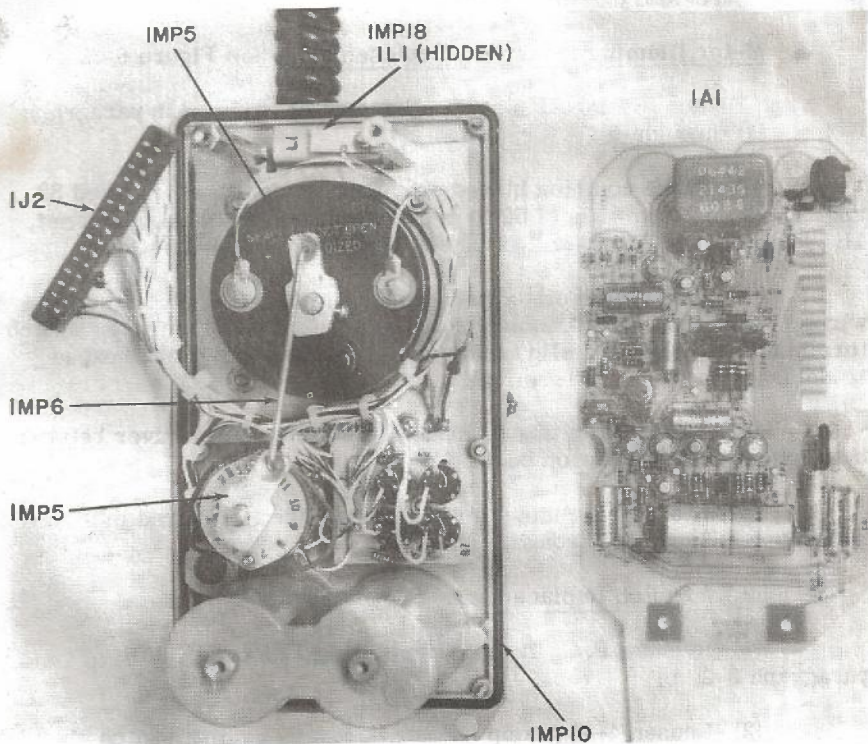

Figure 6-3. Rear View of Top Panel
(4) To replace V2, unscrew the small knurled nut 2A3MP50 and pull tube and mounting board out of probe.
(5) Replace V2 and reinsert board assembly 2A3A1 in probe making sure that board is positioned toward large probe while reassembling.
b. Printed Circuit Board Removal and Replacement. See Figure 6-3.
(1) Unscrew 6 captive screws on top panel and remove panel from housing.
(2) Remove four 6/32 screws and hardware holding P. C. board 1A1 to radiacmeter. The two screws attaching board to battery compartment are shorter than the front two and must be replaced in correct order.
(3) Remove connector, reconnect new board assembly and reassemble in reverse order.
c. Meter Replacement. See Figure 6-3.
(1) Unscrew and remove the calibration port cover from the top panel.
(2) Remove the P. C. board as outlined in paragraph 6-2, b.
(3) Loosen 4-40 screw holding clamp on meter flag shaft and remove clamp from meter.
(4) Remove two hex stand-offs and hardware from front of meter bracket.
(5) Remove two 6-32 screws and hardware from rear of meter bracket.
(6) Unsolder meter wires, note color code and polarity.
(7) Pivot meter bracket to the side permitting access to the four 6-32 meter mounting screws. Remove four 6-32 screws and hardware.
(8) Remove and install new meter in reverse order.
(9) Place meter clamp over flag shaft and turn range switch to 50 position.
(10) Using long nose pliers, rotate flag shaft to center white 10-50 scale. Tighten 4-40 clamp screw.
(11) Check all ranges for scale alignment and readjust clamp position if necessary.
d. Meter Illumination Switch Replacement. See Figure 6-3.
(1) Remove meter mounting bracket as outlined in paragraph 6-2, c, (1) through (5).
(2) Place common bladed screwdriver down hole marked S2 and in between terminals of S2 to prevent rotation as the boot hex nut, 1H1 is unscrewed from the top panel handle mount (3/8 spintite).
(3) Pull switch out of handle mount, cut or unsolder the two wires, install new shrink tubing over the wires, resolder to new switch terminals (no polarity), slip tubing over terminals and using heat of soldering iron shrink to terminal.
(4) Push switch into mounting hole using screwdriver between the terminals and screw on boot 1H1.
(5) Reassemble meter mounting bracket as outlined in paragraph 6-2, c. (8) through (11).
e. Range Switch Replacement. See Figure 6-3.
(1) Remove P. C. Board assembly 1A1 as outlined in paragraph 6-2, b.
(2) Loosen 4-40 clamp linkage screw on rear of switch shaft. Remove clamp from shaft.
(3) Loosen two 4-40 set screws in knob using a .050 allen wrench. Remove knob.
(4) Remove nut and hardware from switch shaft using 1/2" spintite.
(5) Identify each wire and terminal while unsoldering. Replace 1R1 and 1R2 on new switch, solder wires and install in panel with non-rotational tab properly seated. Fasten switch and knob. Set screw in rear of knob must run into flat on switch shaft.